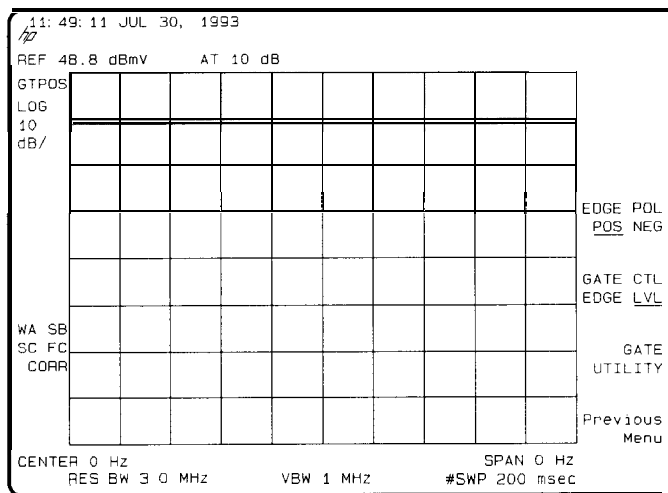

Figure 5-31. Using the level Gate Control
- To check the gate control function, press SWEEP, Gate Control , GATE CTL EDGE LVL so that LVL (level) is underlined. (See Figure 5-31.)